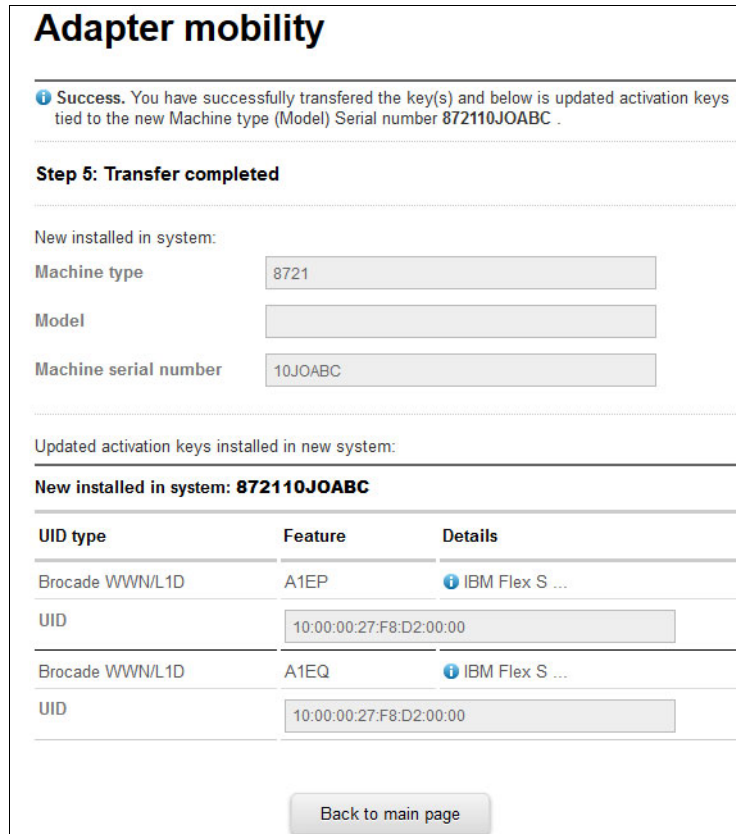

Figure 5-17 Successful key transfer
- The next window indicates that the transfer of FoD keys to the new chassis was successful, as shown in Figure 5-17.